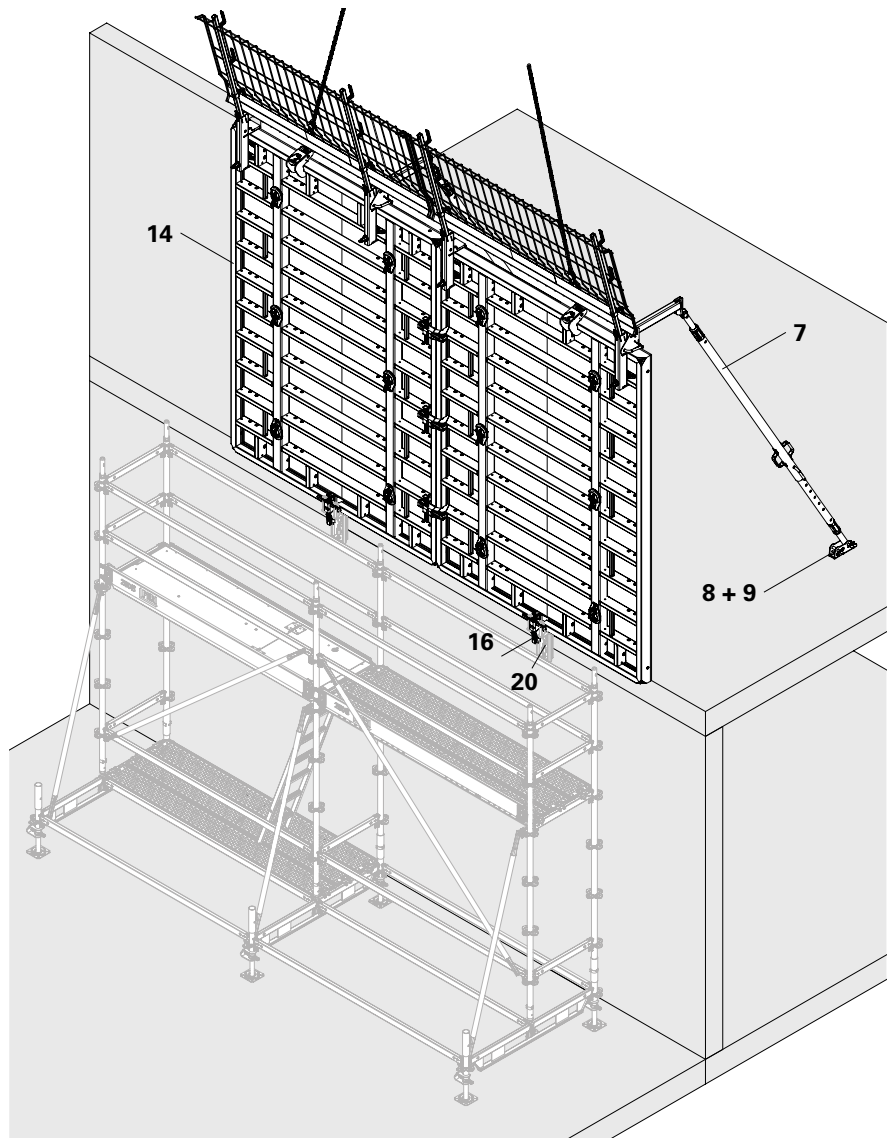
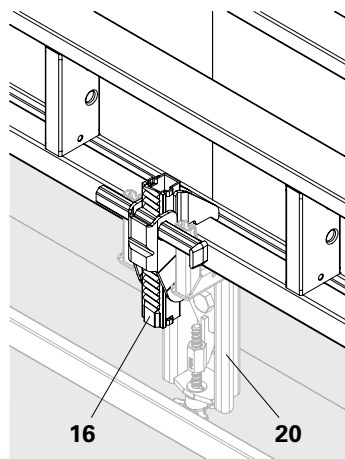

Fig. C3.02
Fig. C3.03
1. Move formwork element (14) with crane to assembly position and position on the wall formwork consoles (20).
2. Set up the formwork element and clamp with alignment coupler BFD (16) to the wall formwork console (20).
- ⇒ The formwork element is pushed via the alignment coupler onto the concrete slab and simultaneously fixed to the wall formwork console. (Fig. C3.03)
3. Set the inclination of the push-pull props (7) to horizontal 60°.
4. Fix base plate (8) using anchor bolt (9).
8. Set up formwork element (14) with push-pull props. (Fig. C3.02)